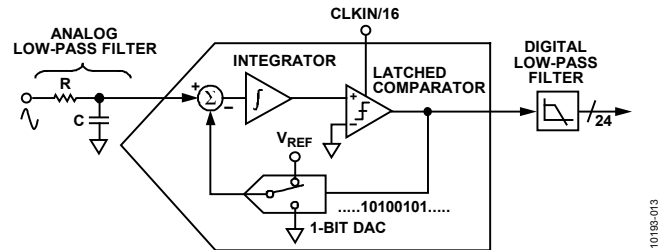
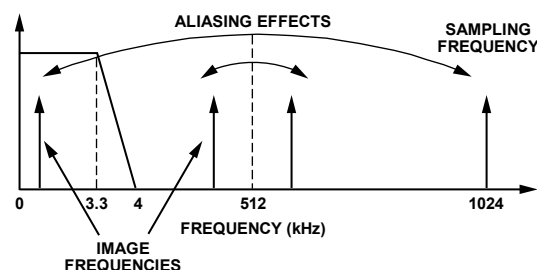

Figure 39. First-Order  $\Sigma$ - $\Delta$  ADC
Figure 41. Aliasing Effects
For simplicity, the block diagram in Figure 39 shows a first-order  $\Sigma$ - $\Delta$  ADC. The converter is composed of the  $\Sigma$ - $\Delta$  modulator and the digital low-pass filter.
Figure 39 also shows an analog low-pass filter (RC) on the input to the ADC. This filter is placed outside the ADE7880, and its role is to prevent aliasing. Aliasing is an artifact of all sampled systems as shown in Figure 41. Aliasing means that frequency components in the input signal to the ADC, which are higher than half the sampling rate of the ADC, appear in the sampled signal at a frequency below half the sampling rate. Frequency components above half the sampling frequency (also known as the Nyquist frequency, that is, 512 kHz) are imaged or folded back down below 512 kHz. This happens with all ADCs regardless of the architecture. In the example shown, only frequencies near the